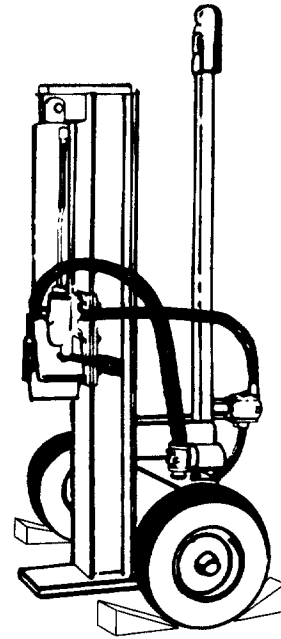

FIGURE 15.
4. The tongue can be removed and reattached in an upright position as shown in figure 15 to take less space when storing.